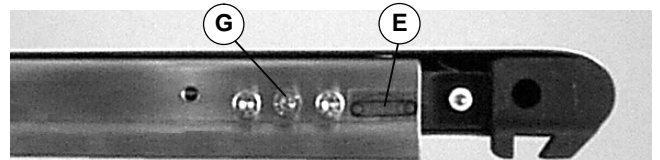

Figure 3
3. With pinion gear engaged, insert a 4 mm hex key wrench into lock screw (G of Figure 3).